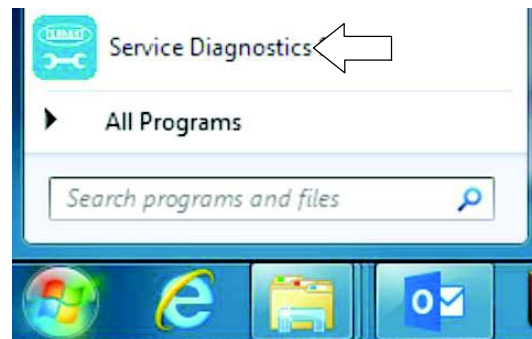
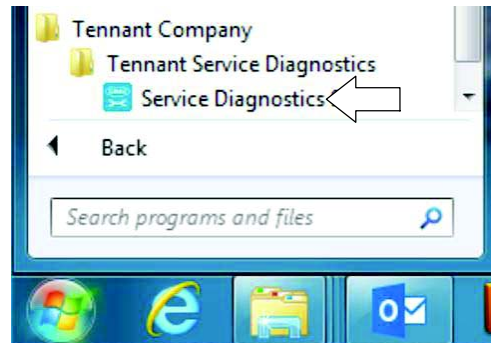

FIG. 11
FIG. 12
1. Access the software through either the desktop icon or the Start Menu. The software application is titled "**Service Diagnostics**". (Fig. 10 / Fig. 11 / Fig. 12)